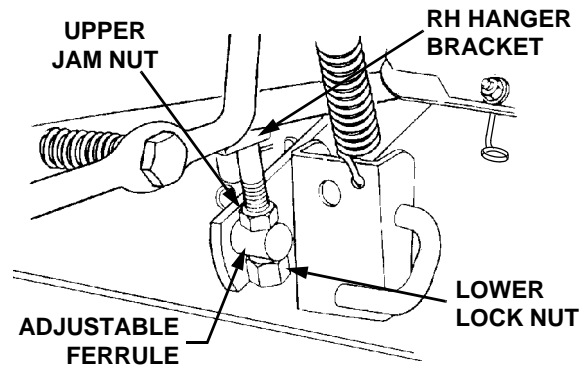

Figure 33
7. Side-to-side leveling is obtained utilizing the adjustment ferrule and right hand hanger bracket (Refer to Figure 33).
8. Loosen the upper jam nut on the hanger bracket and turn away from the adjustment ferrule. Turn the lower lock nut upward (tighten) on the threads of the hanger bracket to raise the right side of the mower deck. Turn the lock nut down (loosen) on the threads to lower the right side of the mower deck (Refer to Figure 33).